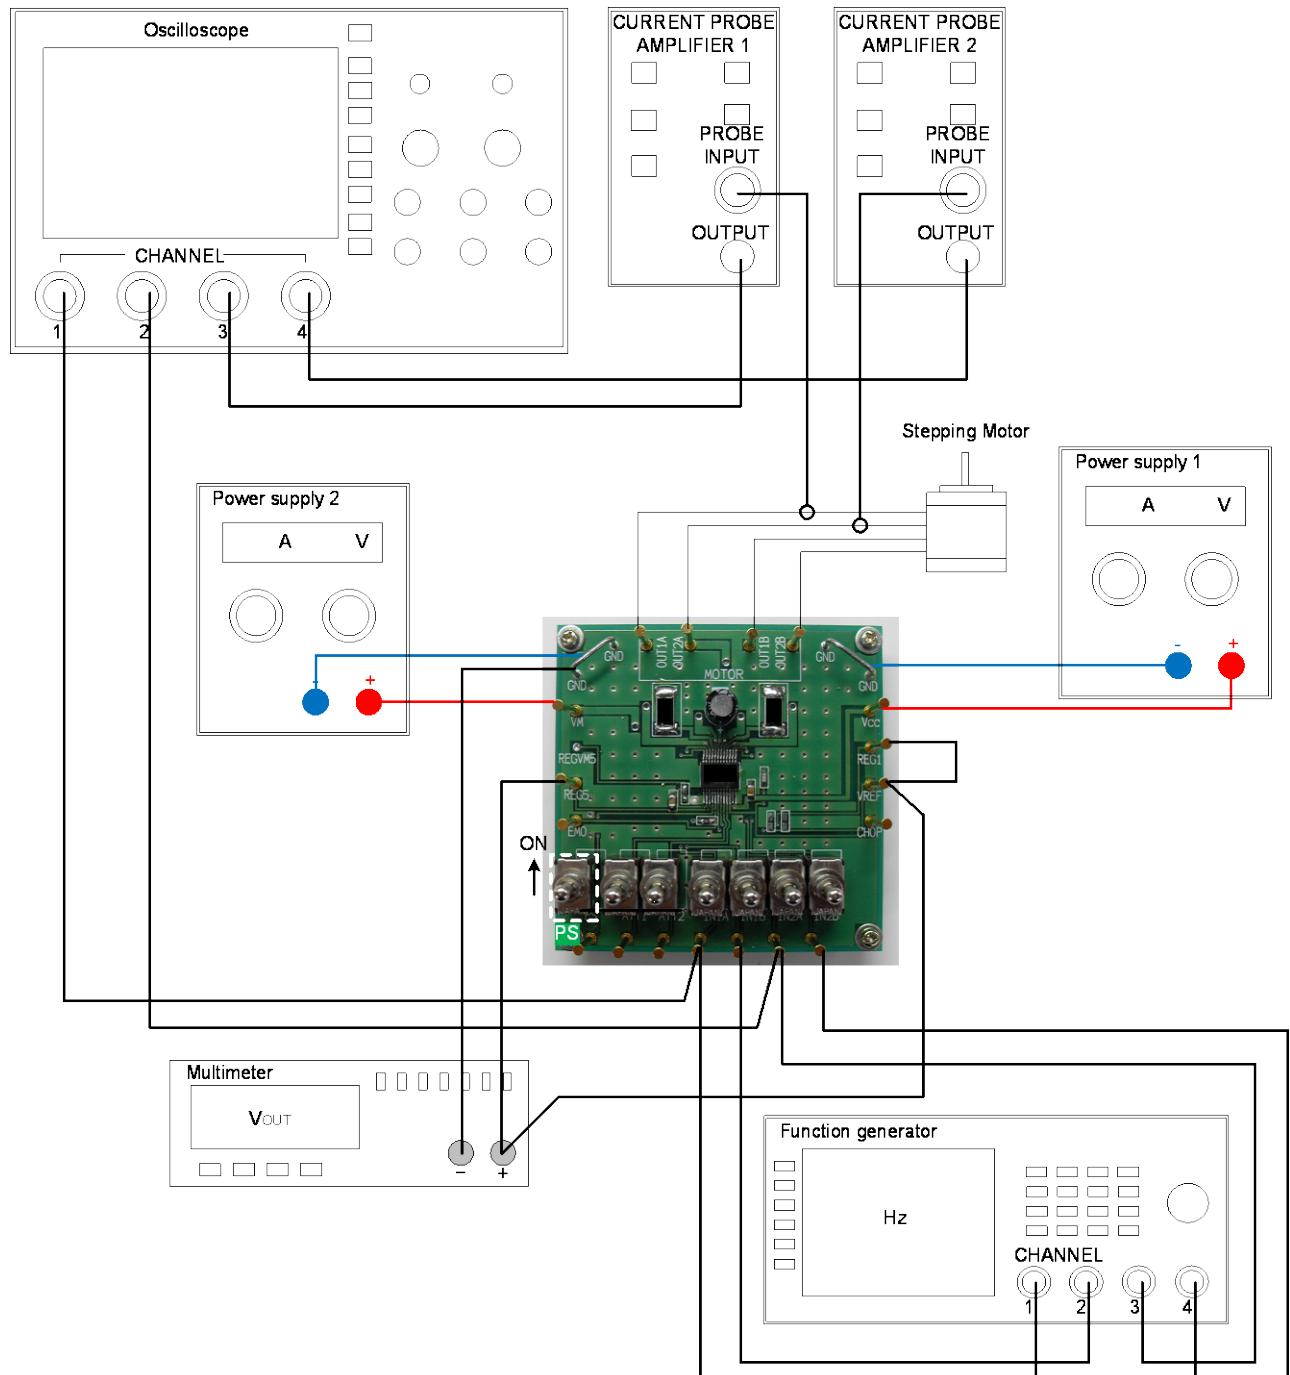

Figure 1: Setup for Stepper Motor Control
1. Connect the test setup as shown Figure 1.
3. Turn the switch of “PS” on. (Knock it down for above in Figure 1.)